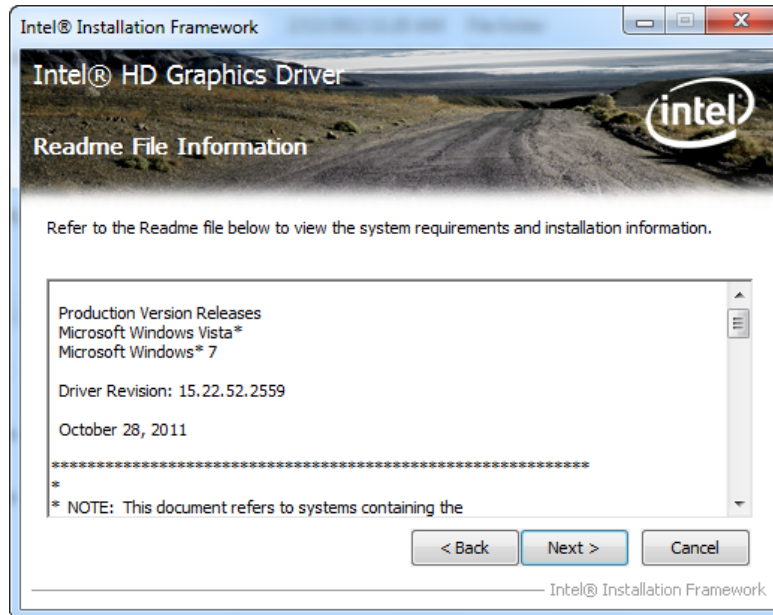

Figure 5-12: Graphics Driver Read Me File
Step 12: The **Read Me** file in **Figure 5-12** appears.